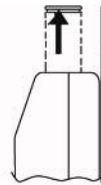

Fig. 3a
5. Replace grille by pressing it into position until it locks. The aluminum reflector must be positioned over the lamp nearest the front of the unit (Fig. 3a).